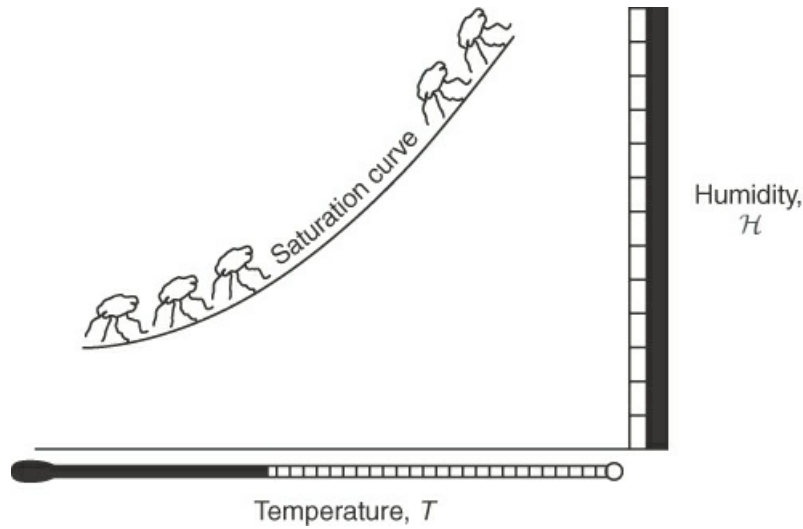

Figure 10.4 Major coordinates of the humidity chart
2. See Figure 10.4.
The **humidity chart**, more formally known as the **psychrometric chart**, relates the various parameters involved in making combined material and energy balances for moist air. In the Carrier chart, the type of chart we will discuss, the vertical axis (usually placed on the right-hand side) is the (specific) humidity, and the horizontal axis is the dry-bulb temperature. Examine Figure 10.4. On this chart, we want to construct several other lines and curves featuring different parameters.